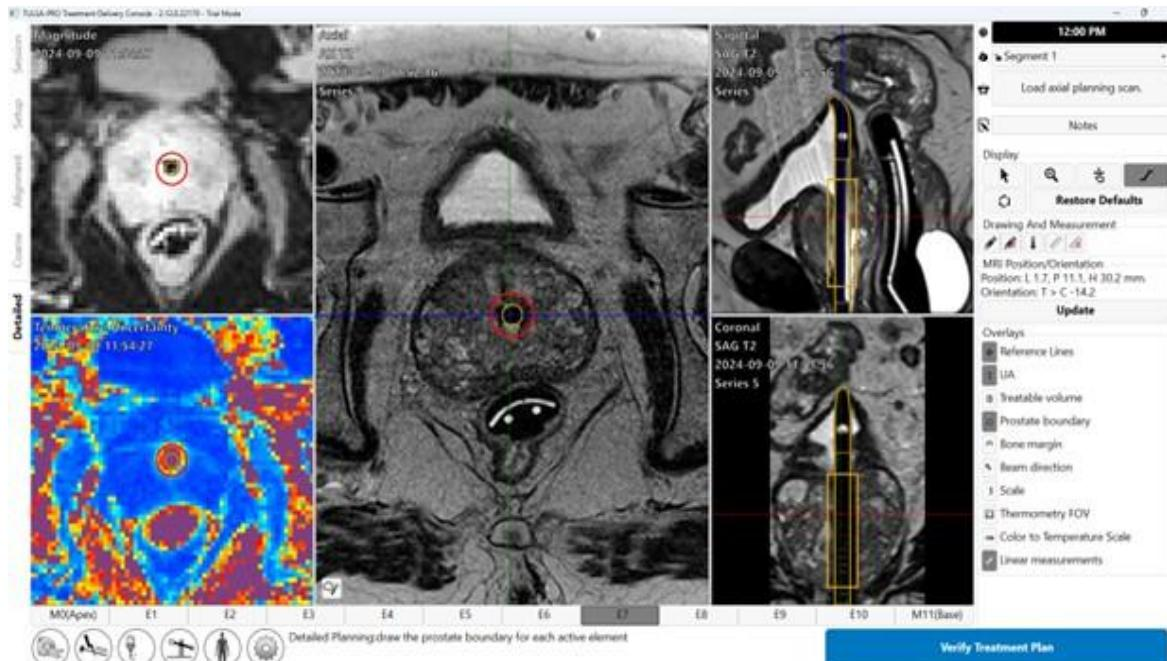

Figure 39: Detailed Planning workspace with Thermometry Magnitude and Temperature Uncertainty
5. Radiologist: As the thermometry scans are received, the **Magnitude** and **TemperatureUncertainty** views will be displayed automatically. Use **Load ... Scan** to load the AX T2 or AX DWI images. Once the thermometry scans are loaded, the Magnitude and Temperature Uncertainty views will be displayed to facilitate treatment planning (*Figure 39*).